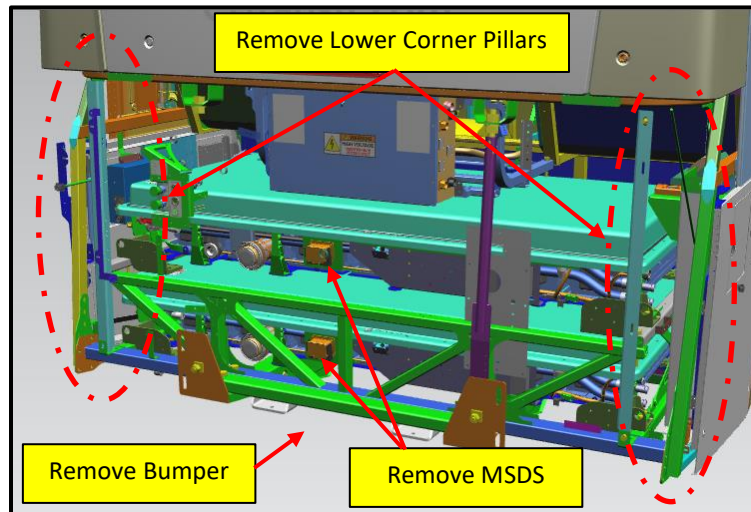

Figure 13: Lower Corner Pillars and Rear Door Removal Location Reference.
46. Open the rear ESS access door and locate and remove the MSDs from each ESS unit and install a dust cover. See Figure 13.
48. Support the rear bumper with a forklift, remove the four retaining bolts, and remove the rear bumper and set mounting hardware aside for re-installation. See Figure 13.
49. Remove the lower corner pillars (including turn signals and brake lights) and brackets and set mounting hardware aside for re-installation. See Figure 13.